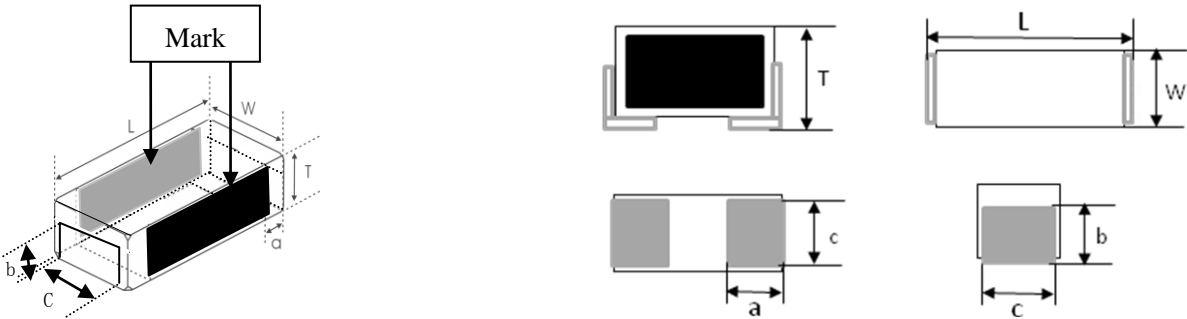

Fig. 4-1
- 1) Dimensions and recommended PCB pattern for reflow soldering: See **Fig.4-1**, **Fig.4-2** and **Table 4-1**.